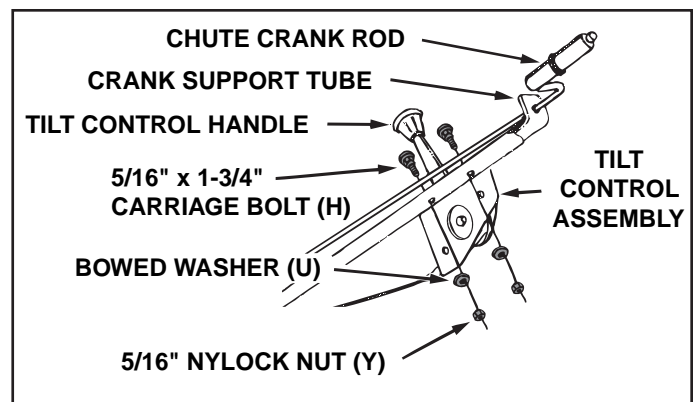

FIGURE 50 LEFT SIDE VIEW
STEP 51: (SEE FIGURE 50)
- Attach the chute tilt control assembly to the top side of the crank support tube using two 5/16" x 1-3/4" carriage bolts (H), bowed washers (U) and 5/16" Nylock nuts (Y).